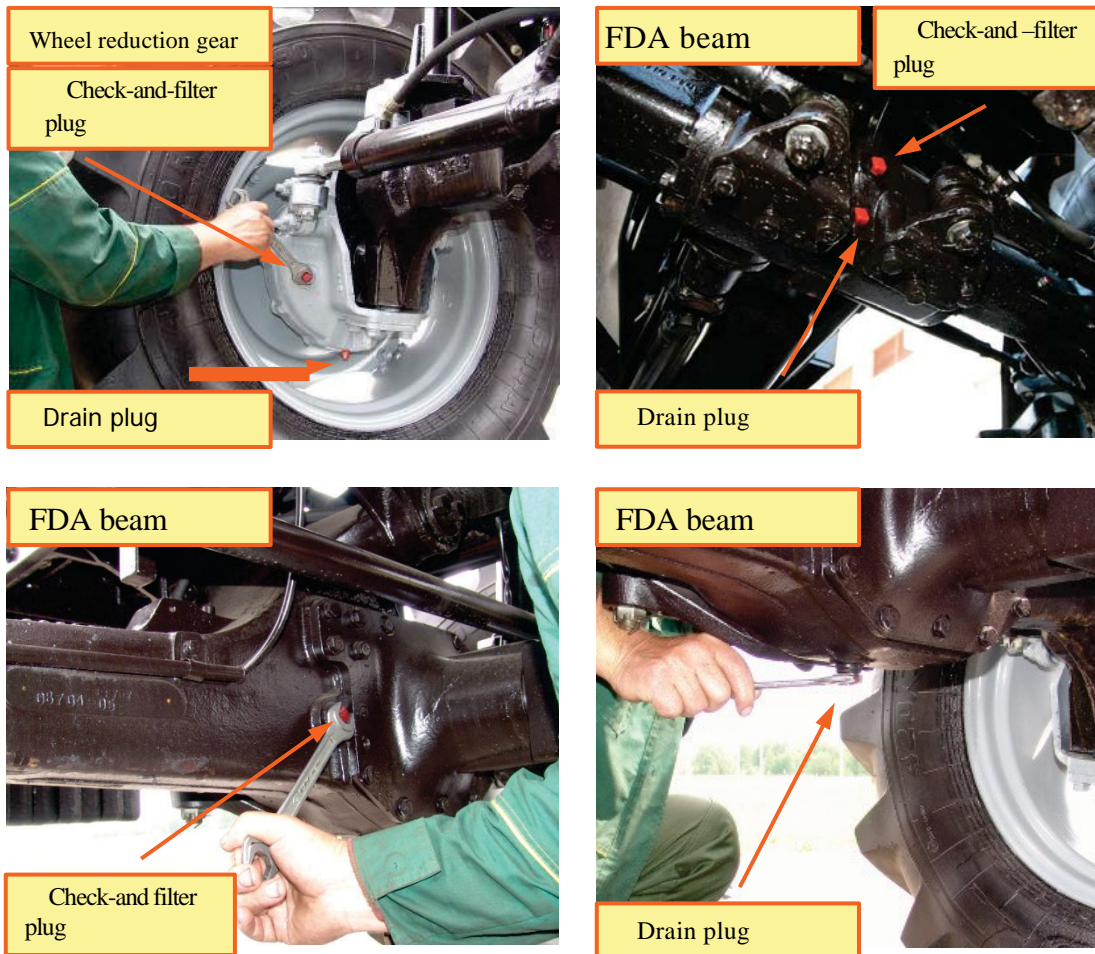

Figure 8.59
**Procedure 50. Changing Oil in the FDA Hub Reduction Gear-Box and Final Drive (fig. 8.59)**